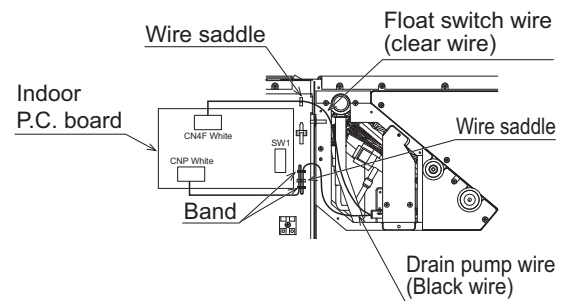

Fig.2
2. Remove the connector from CN4F and CNP on the control board, shown in Fig. 2.